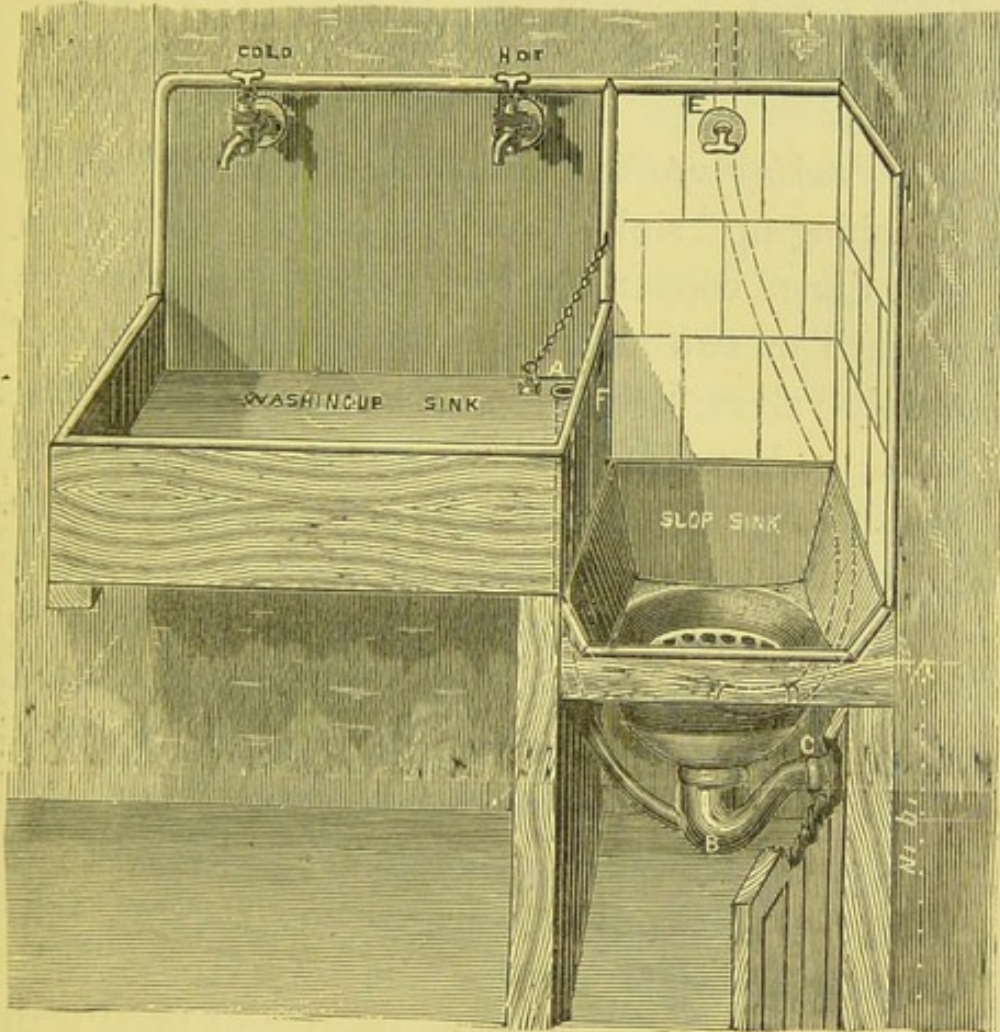
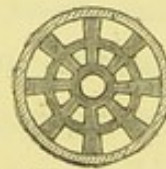

FIG. 31.\*
FIG. 32.
A slop-sink can be formed in many ways. It can be fitted up by itself, or attached to an ordinary housemaid's washing-up sink; and thus the two may be combined (see Fig. 31). If cheapness is a consideration, it may be fitted up in a most inexpensive and simple way—in addition to the cost of the waste. All that is necessary is a pottery-ware basin (white inside), large enough to receive a pailful of slops, and for this an ordinary water-closet hopper will do very well. There should be a lead tray over it, standing up about 6 in. at the back and the two sides, and about 2 in. in the front, to prevent splashings over it; and this tray should fall towards the basin with the lead bossed down a couple of inches into it.
This sink, when fixed up-stairs or inside a house, having a lead waste-pipe from it, should always have a lead trap under it, as shown on Plate 3, Fig. 1. (See Fig. 31, showing a "water-shoot" slop-sink with a housemaid's sink combined.)
*Washing-up Sink and Slop-sink combined.*—The "washing-up" sink, Fig. 31, is a wood sink, lined with tinned copper, the back of which is taken up an inch or two above the hot and cold draw-off supply-valves, to prevent splashings against the wall. A is a plug and washer, as Fig. 32, and from this a 2-in. lead waste-pipe is taken into the trap under the slop-sink.
The slop-sink in the diagram is a patent "water-shoot," as Fig. 30, with a 4-in. patent cast-lead trap, B, Fig. 31, as Fig. 7. A lead "seating" is soldered on the top, or inlet, of this trap, to receive the slop-sink, and the *outgo* of the trap, C, is *soldered* to the waste-pipe.
All such sinks should be fitted with a *strong* sunk plug and washer (see Fig. 32), with a grating formed in the shape of a cobweb in the bottom, for the water to run quickly through, and for durability.
*Scullery-maids' Sinks*, where there is rough usage, and a great deal of rough work in connection with hot-water washings-up, should be made of deal, and lined with tinned copper not less than 4 lbs. to the superficial foot in the bottom, and  $2\frac{1}{2}$  lbs. at the sides. These sinks are very durable, and as they are of a smooth substance they can be kept clean and wholesome, and they are nothing like so damaging to crockery-ware as material of an unyielding nature as slate, iron, stone, and pottery-ware, &c. Fig. 31 shows a "washing-up" sink lined with tinned copper as just described.